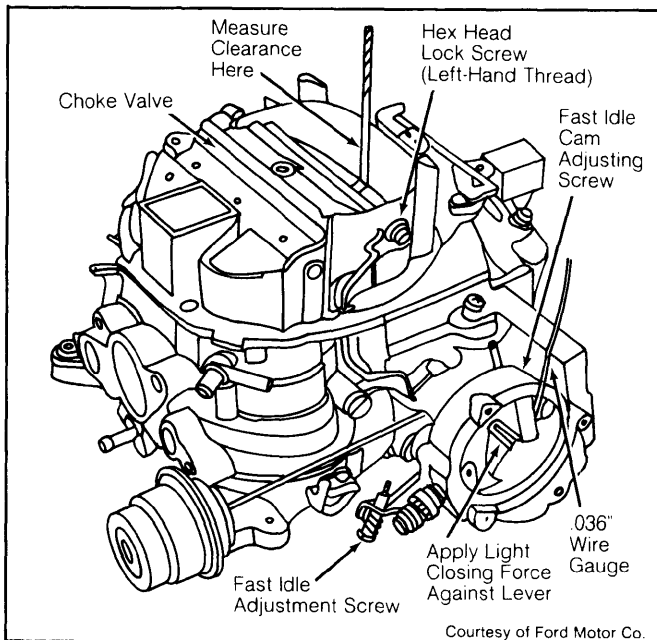

Fig. 4: Initial Choke Pull-Down Adjustment
5) Check that choke lever rotates freely on shaft. Place correct size gauge between lower edge of choke valve and air horn wall. See Fig. 4. Apply light closing pressure on choke valve.